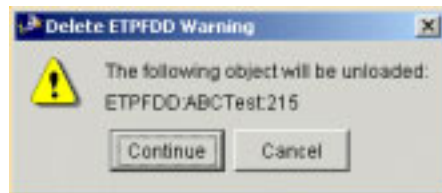
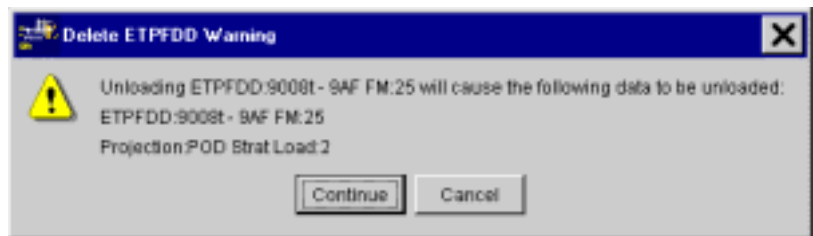

Figure 5.15 Delete ETPFDD Warning Window
Figure 5.16 Delete ETPFDD Warning Window
- To delete the loaded ETPFDD from the database, click OK. One of the following Delete ETPFDD Warning windows opens (Figure 5.15 or Figure 5.16). Continue with Step 3.